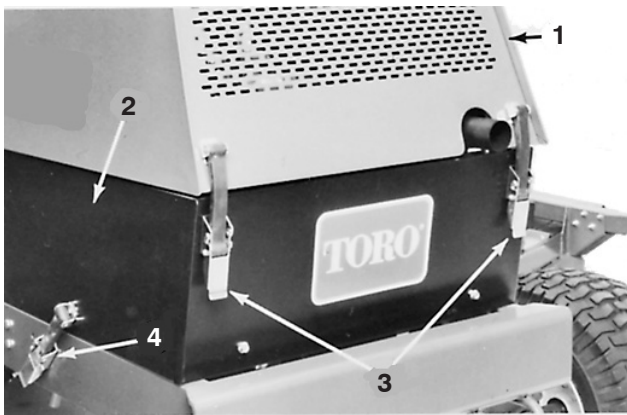

Figure 1
1. Unlatch the hood and left hand engine side panel (Fig. 1). Raise and prop hood open and remove the left side panel. Make sure hood prop is secured in one of the mounting brackets on hood.